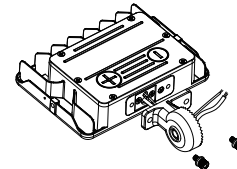

figure 1.1
- Step 2: pass the wires through hardware and fix it with screws; (figure 1.1)